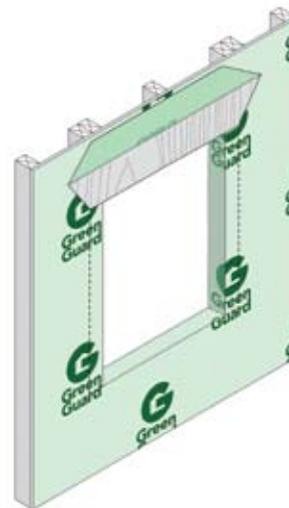

FIGURE 4A: PREPARATION OF ROUGH OPENING
1. Install GreenGuard Building Wrap over the entire exterior wall and make a modified “I” cut through the building wrap at the window opening (see Figure 4A). Cut a header flap in the building wrap and fold material above top of window and tape. Cut building wrap on sill to promote flashing-to-wood adhesion. On the sides of the rough opening, mark off a vertical line approximately 3 inches from the opening.